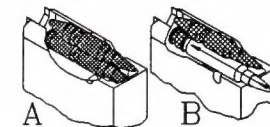

Figure 1.10
Once the 14 spacer rounds are correctly in place, the last round link assembly (Part No. ACM012) is inserted in the orientation shown in Figure 1.10.A.
- the last spacer round is inserted as shown in Figure 1.10.B. It must be pushed from the front into the space between the two elements of the last round link assembly. Slightly tilt the assembly in the feed clip to achieve this. Tap the spacer round in order to completely seat it in position.